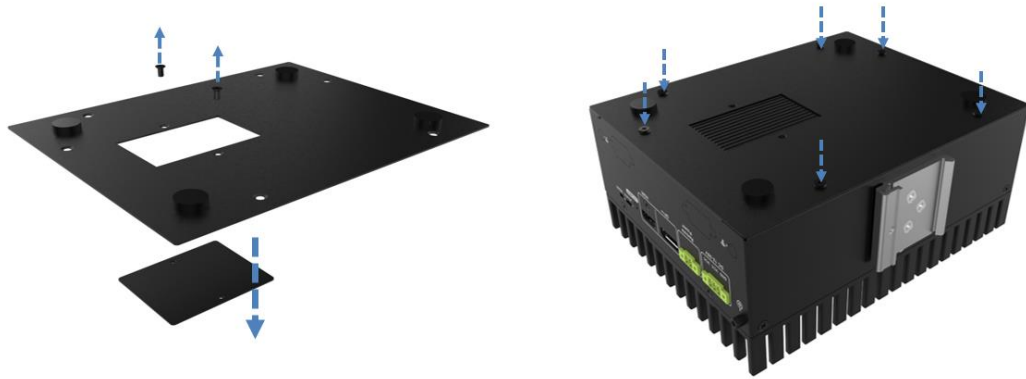

Figure 3-7: PoE Power Module Installation
- Step 3:** The PoE power module comes with a heat sink, so you need to uncover the opening reserved for the heat sink before re-installing the back cover. Remove the two retention screws to uncover the opening on the back cover, and then re-install the back cover using 6 retention screws (**Figure 3-7**).